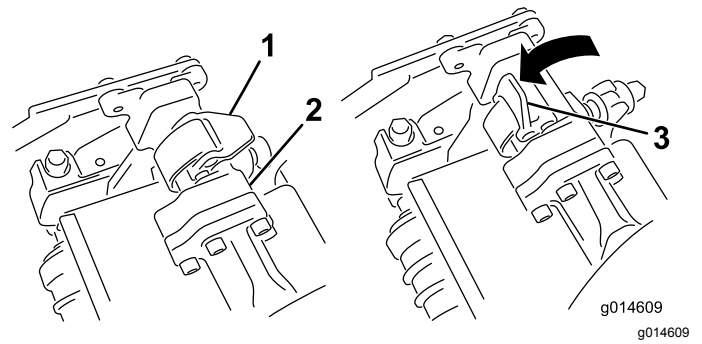
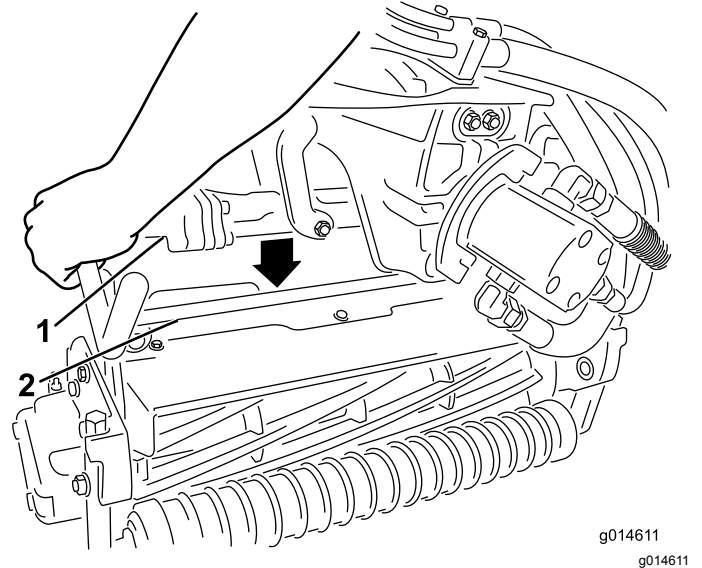

Figure 45
Figure 46
4. Close the latches down and around the cutting-unit bar and lock them in place (Figure 45).
3. With the latches on the suspension-arm bar pointing up (i.e., open) (Figure 45), push the suspension arm down so that the bar fits over the bar across the top of the cutting unit (Figure 46).
4. Open the latches on the suspension-arm bar of the cutting unit you are removing (Figure 45).